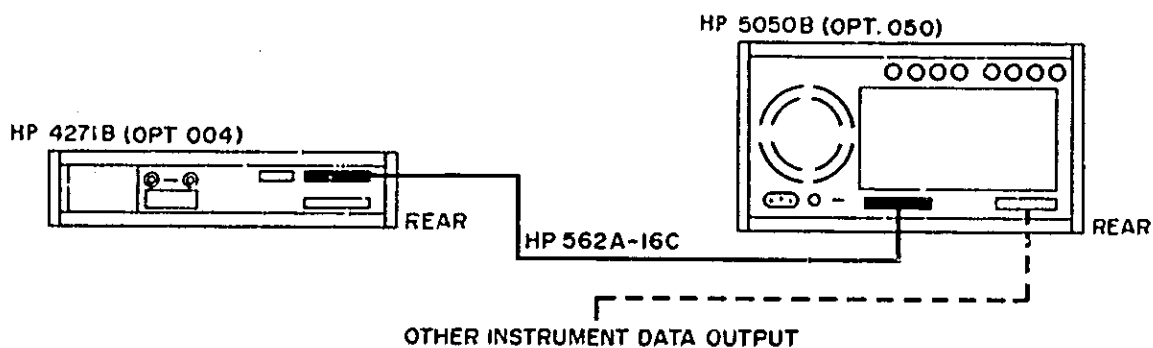

Figure 3-16. Parameter Serial BCD Output (OPT. 004).
- Option 004 is used to (alternately) transfer C L data and G R D data in a parallel BCD code. Refer to Figure 3-16. Recorder Models 5055A, 5050B OPT. 051 and 5050B OPT. 050 may be used with a Model 4271B equipped with option 004. Data measured with bias voltage can also be recorded (except for bias voltage itself).